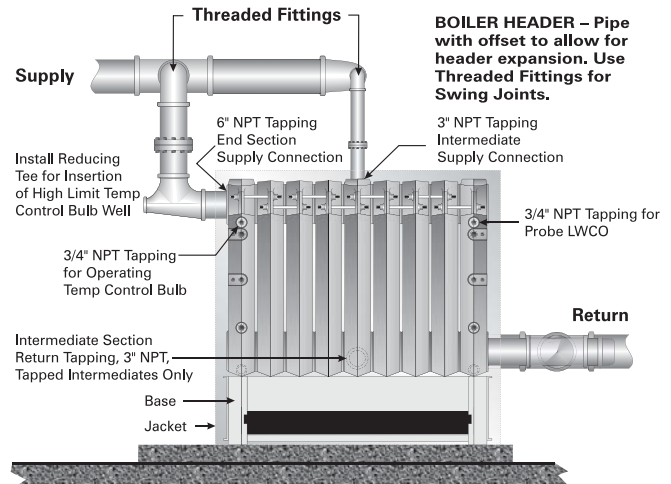

Figure 5.2: Alternate Piping, Left End Supply
1. Always locate the return connection on the end of the boiler opposite the supply connection. Pipe the supply on the right end as shown in Figure 5.1 or on the left as shown in Figure 5.2.